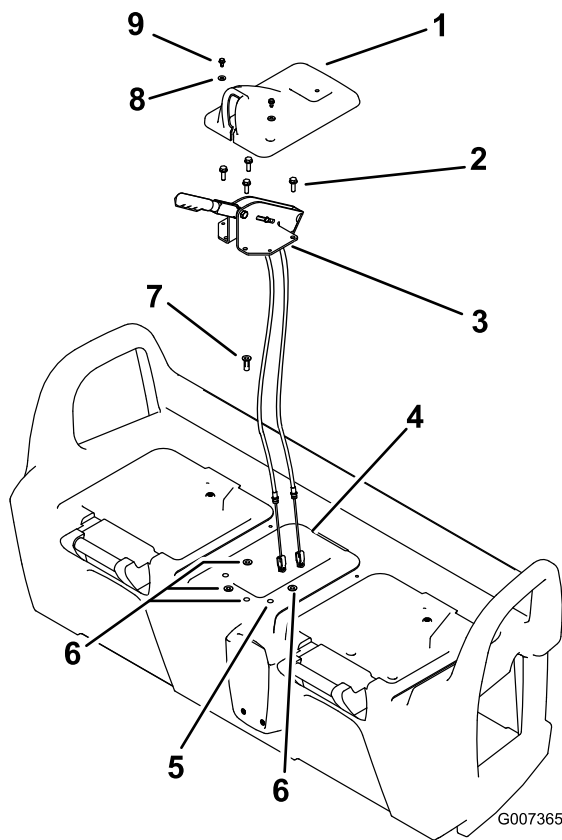

Figure 18
2. Install the plus nut to the seat base at the locations shown using a plus nut installation tool (Figure 18).
3. With the parking brake assembled, route the parking brake cables through seat base using the 2 inch diameter hole created previously (Figure 18).
4. Mount park brake assembly with four bolt (5/16 x 1 inch) (Figure 18).
5. Install brake lever cover with two screws and flat washers (1/4 inch)(Figure 18).